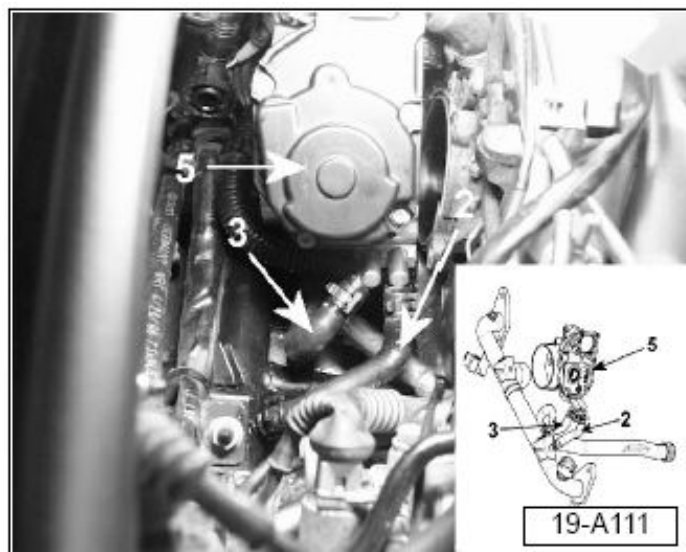

Figure 11. The ends of the heater hose (2 and 3) and throttle body (5).
30. Connect other end of heater hose (Figure 11, 3) to new throttle body (Figure 11, 5), Part No: **078 133 068 AP**.
31. Connect other end of heater hose (Figure 11, 2) to new throttle body (Figure 11, 5).